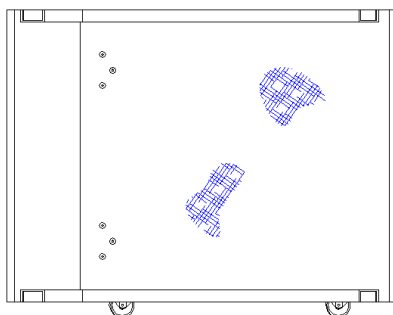

FIGURE 2
- a) For Dock Plates/Dock Boards fitted with side curbs and castors, they can be lifted onto the castors by picking up the opposite side using the side curb as a grip, and wheeled into position. See Figure 2.